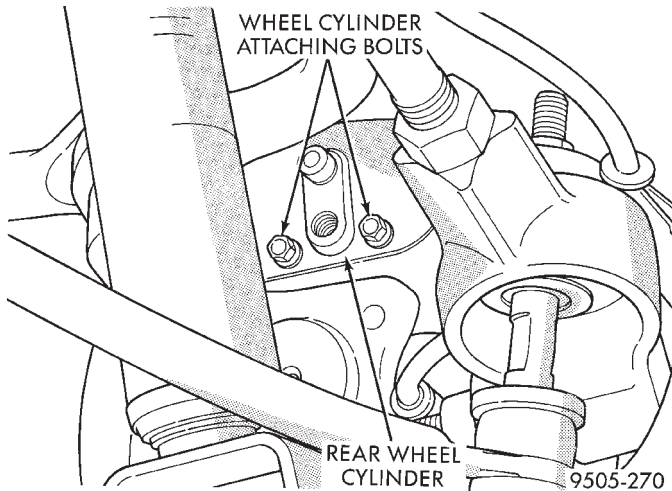

Fig. 104 Wheel Cylinder Attaching Bolts
(3) Remove rear wheel cylinder attaching bolts (Fig. 104). Then pull wheel cylinder assembly off brake support plate.
(1) Apply a small bead of silicone sealer around the mating surface of the wheel cylinder to brake support plate.
(2) Install wheel cylinder onto brake support plate. Tighten the attaching bolts (Fig. 104) to a torque of 11 N·m (97 in. lbs.).